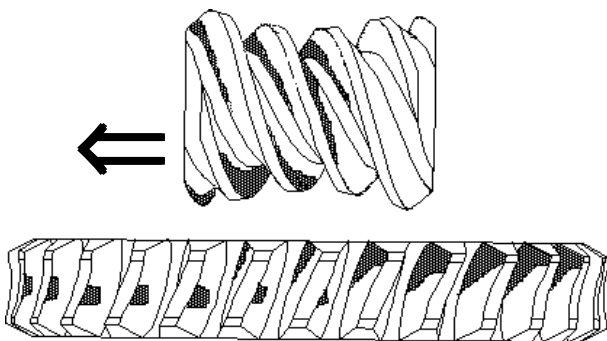

figure 11
5. All of the illustrations, figures 11, 12, 15, and 16, show a misalignment of the gear set.
7. If contact is similar to figures 11 or 15, the worm is out of position. Move the worm in the direction indicated by the arrow. If the contact pattern is opposite to that shown move the worm in the opposite direction.